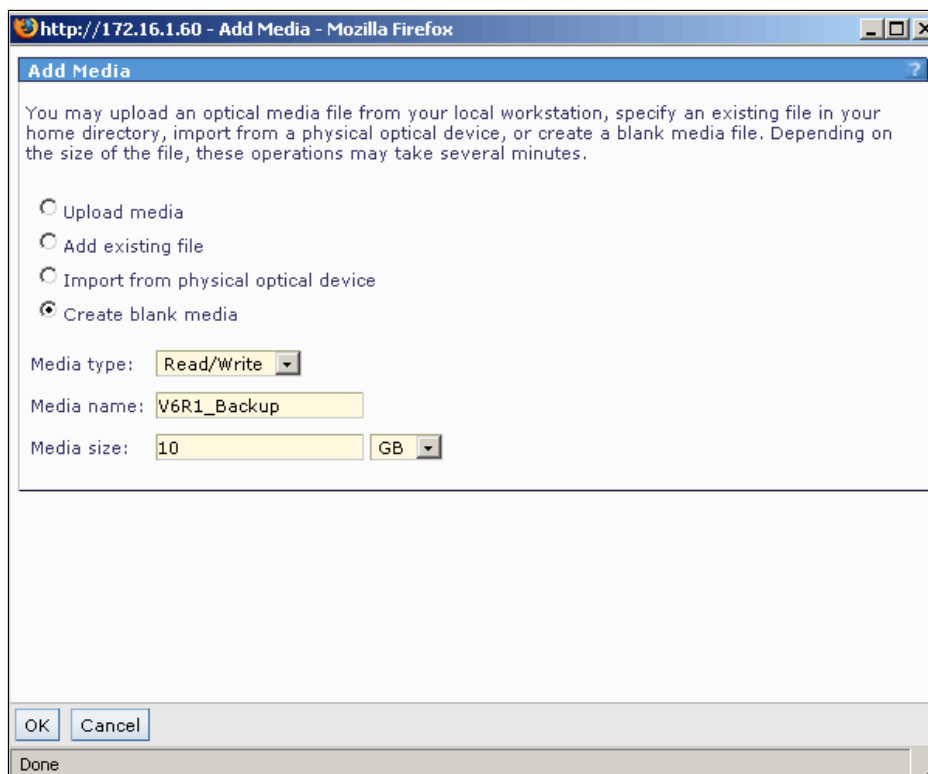

Figure 7-70 IVM Create blank media
6. To add a new virtual optical device to the media library, select **Add Media** in the Virtual Optical Media section. The window displayed in Figure 7-70 will appear.